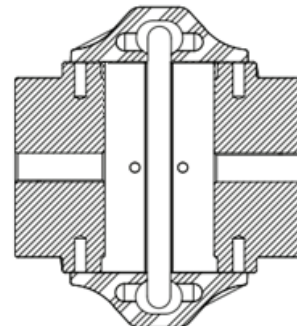
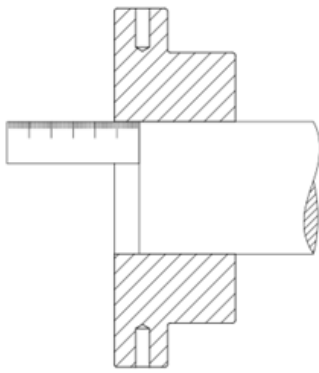

Figure 1 - Raptor Hubs in Outboard Configuration
Figure 2a - Measurement to Axial Location of Hub
6. Install the reducer hub with key. For NEMA 360T frame motors, the hubs should be in the inboard configuration. (Figure 1) For all other frame sizes, the hubs should be in the outboard configuration. Axially locate the end of the hub relative to the end of the reducer shaft per Table 2a and shown in Figure 2a. Tighten the set screws per Dodge Raptor manual MN4062.